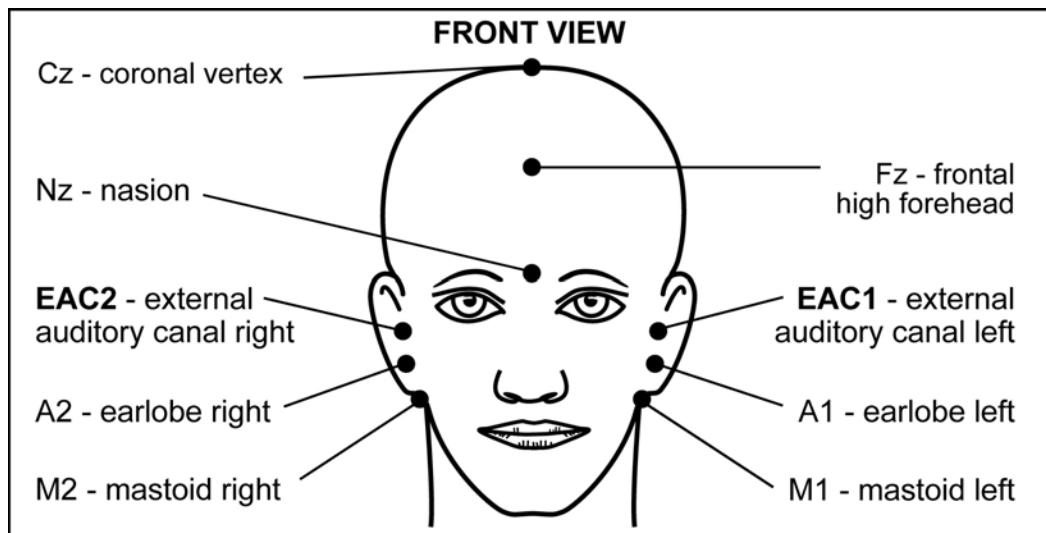

Figure 61 Typical electrode placement diagram - front view
The following electrode placement configurations are recommended for the Amplitrode®, which is optimized for a single-channel recording (Figure 61).
7. Remove the single-use snap electrode pads from the plastic base and paste them on the prepared areas of the patient’s skin. Refer to Figure 61 for details on the recommended locations of the electrodes.